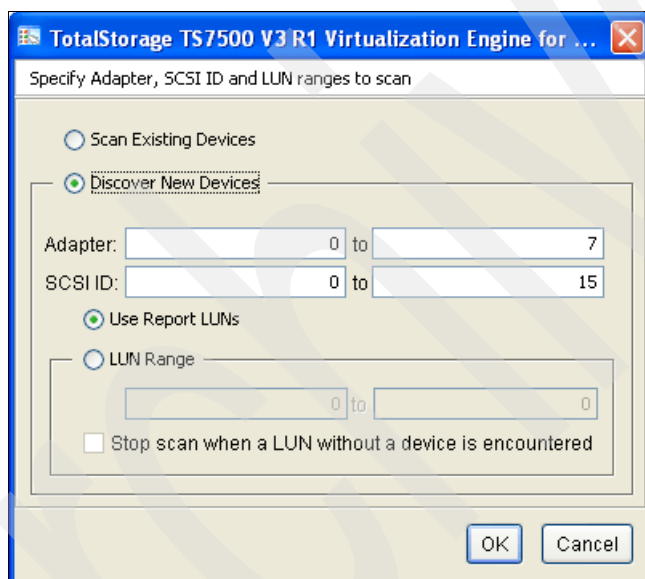

Figure 6-64 Discover new devices: specify adapter, SCSI and LUN ranges
2. From the panel shown in Figure 6-64, select **Discover New Devices**, and click **OK**.